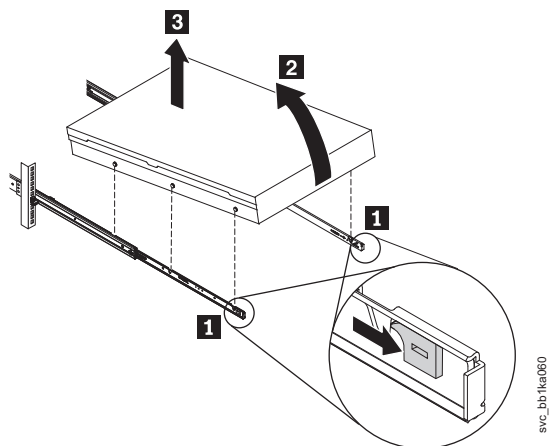

Figure 47. Removing the 2145-CG8 or 2145-CF8 node from the rack
4. Pull forward the two white catches (**1** in Figure 47 on page 67) on the side of the rails, and lift up the front of the node very slightly.